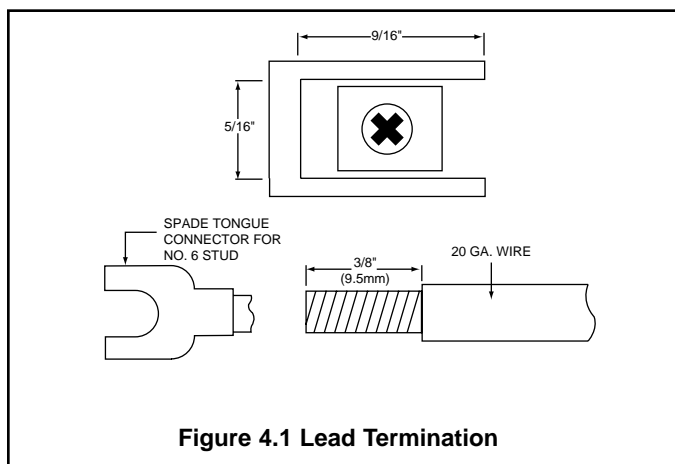

Figure 4.1 Lead Termination
- Both solderless terminals or "stripped" leads as specified in Figure 4.1 below can be used for power leads. Only "stripped" leads should be used for thermocouple connections to prevent compensation and resistance errors.